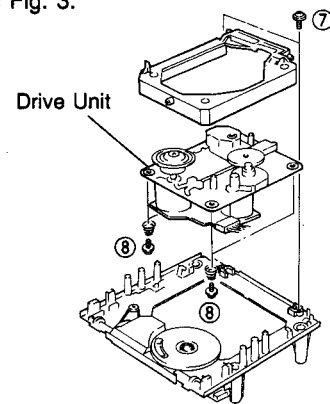

Fig. 3
- Remove 2 screws (⑦) in Fig. 3.
- Remove 4 screws (⑧) and then remove the Drive Unit in Fig. 3.